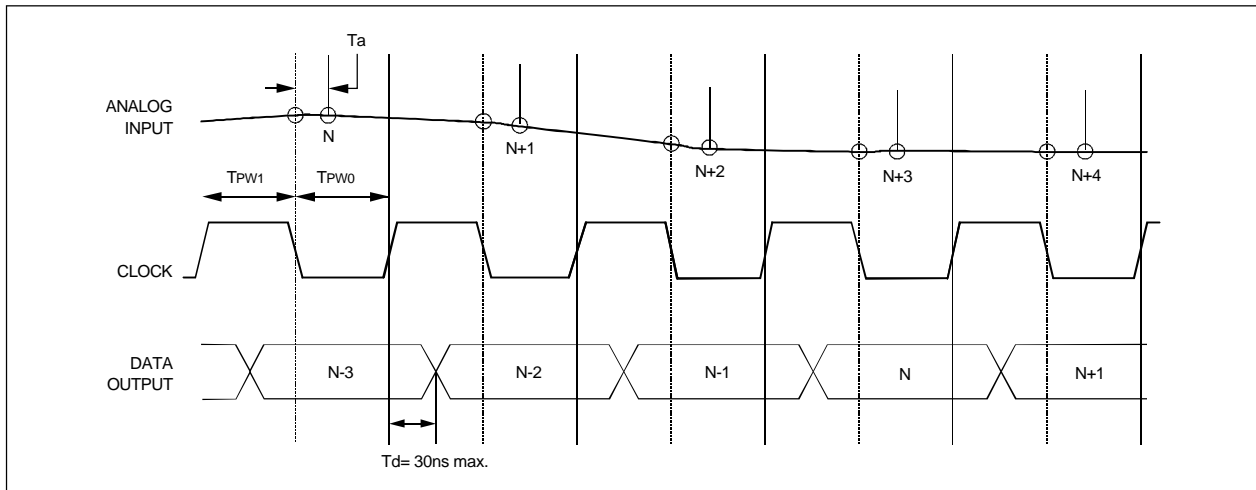

Figure 2. Timing Diagram
8. Maximum 30ns (18ns typical) after the rising edge of the Nth conversion pulse, the result of the (N-3) conversion can be obtained. Data is stored firmly in an output register, such as an 74LS574, using the rising edge of a start convert pulse as a trigger. The (N-4) data is stored in this case. See the timing diagrams, Figure 2 and 4.